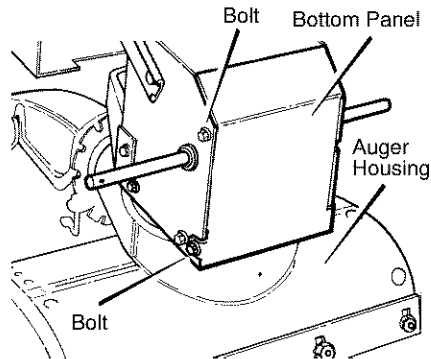

Figure 30
1. Remove the gas from the gas tank. Stand the snow thrower up on the front end of the **auger housing** (see Figure 30).
3. Loosen the **bolts** on each side of the **bottom panel** (see Figure 30).
5. Install the **bottom panel** (see Figure 30).
1. Remove the gas from the gas tank. Stand the snow thrower up on the front end of the **auger housing (4)**. (see Figure 30).